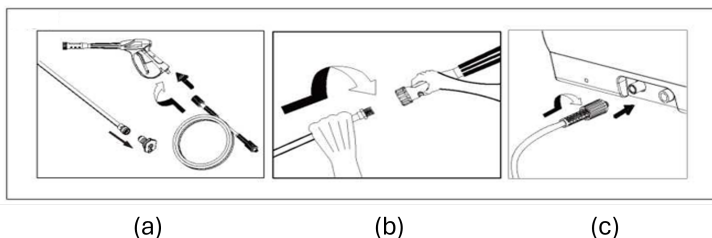

Figure 7: Install the Hand-Spray Gun, Jet Pipe, Nozzle and High Pressure Hose
1. Insert one of the high pressure nozzles (5) into the covering nut and connect the high pressure hose (7) to the hand-spray gun (8) - panel (a) in Figure 7. Note: the covering nut must return to its original position once the nozzle is inserted.
2. Connect the lance (11) to the hand-spray gun (8) - panel (b) in Figure 7.
4. Connect the high pressure hose to the high pressure connection point of the machine - panel (c) in Figure 7.